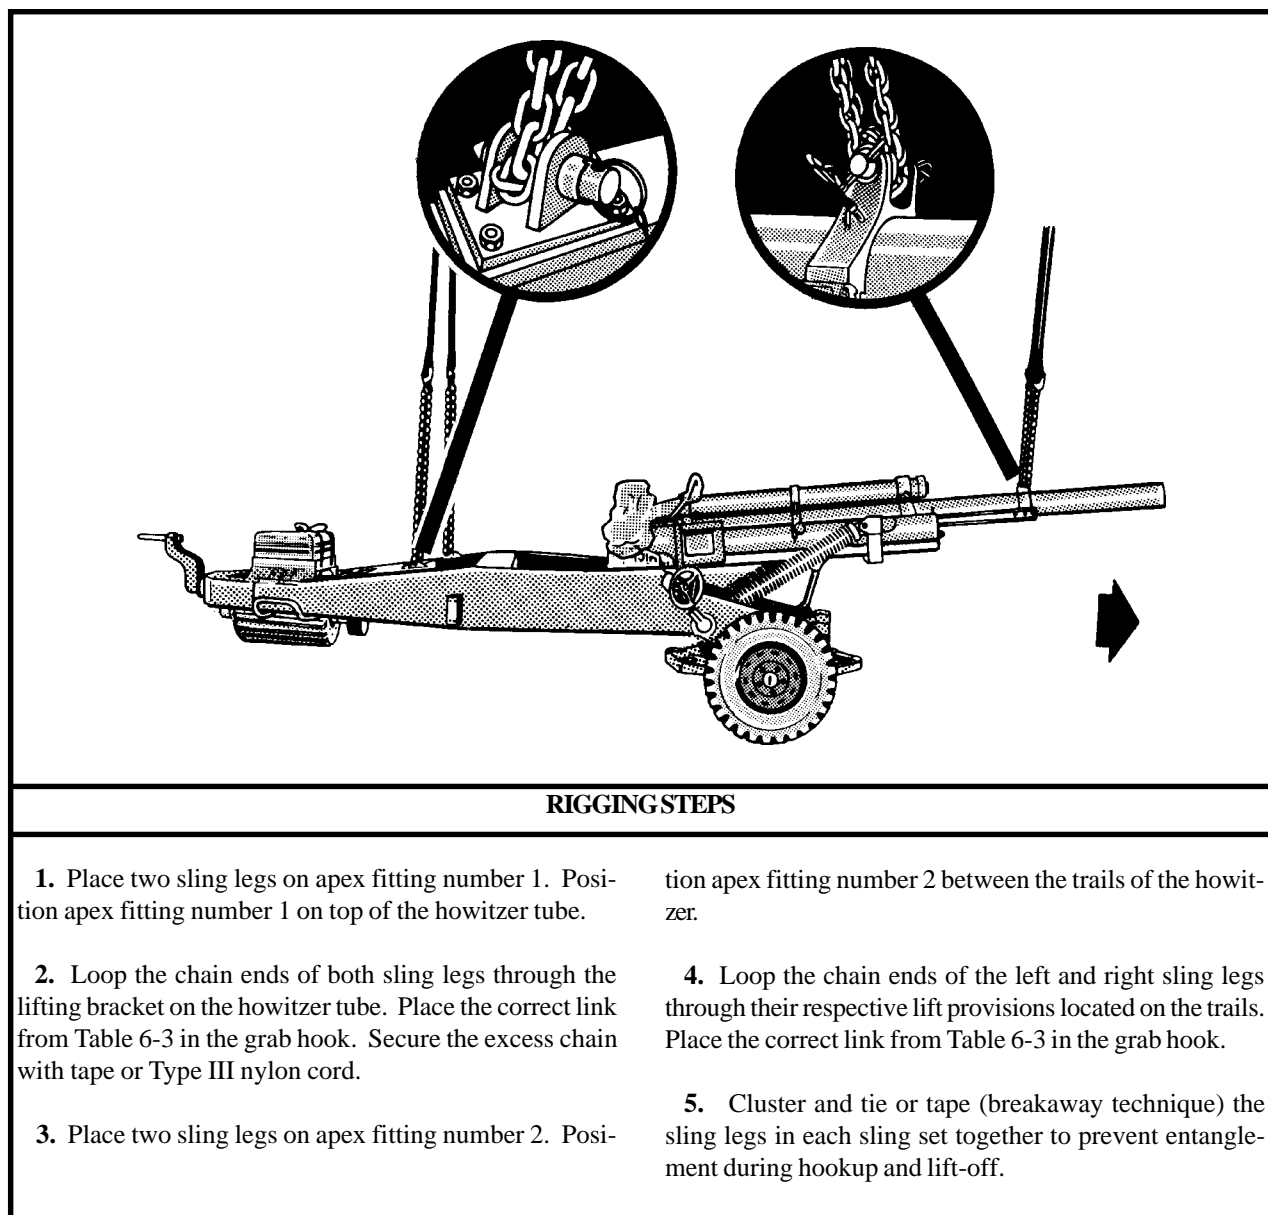

Figure 6-3. M102 Howitzer
(2) **Rigging.** Rig the load according to the steps in Figure 6-3.
(4) **Derigging.** Derigging is the reverse of the preparation and rigging procedures in steps d (1) and d (2).